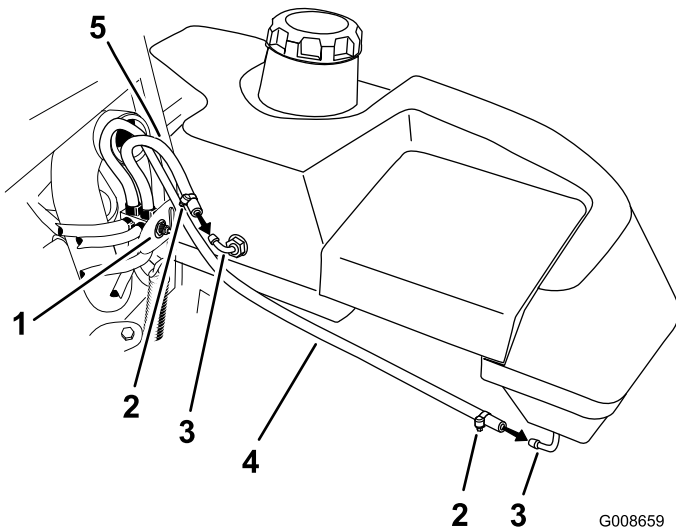

Figure 12
9. Install the longer fuel hose to the front left hand fuel tank connection. See Figure 12. for the correct hoses.
10. Install the short hose to the back left hand fuel tank connection (Figure 12).